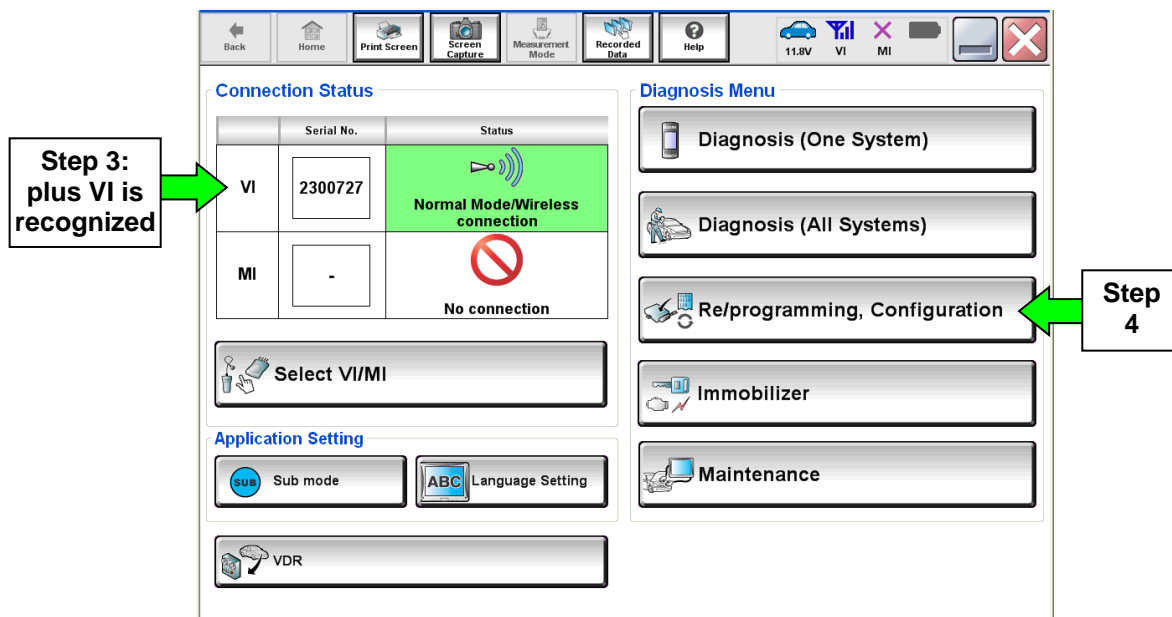

Figure 1
1. Return to the C-III- plus Home screen (see Figure 1).